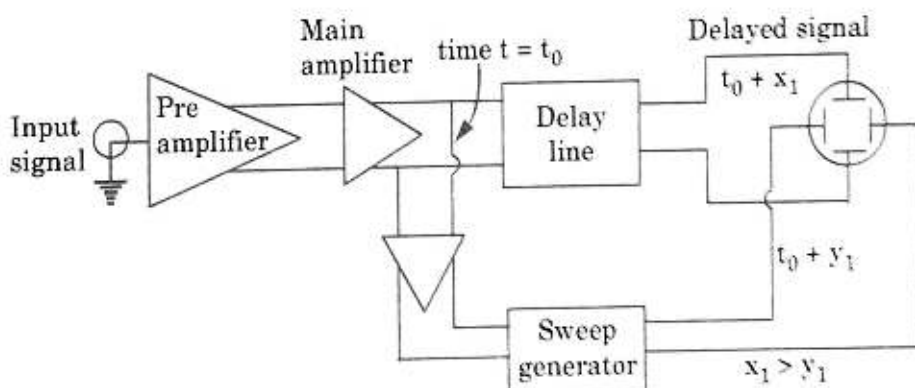

Fig. 4.6.1. Delay line circuit.
2. Thus the input signal is not applied directly to the vertical plates but is delayed by some time using a delay line circuit as shown in Fig. 4.6.1.